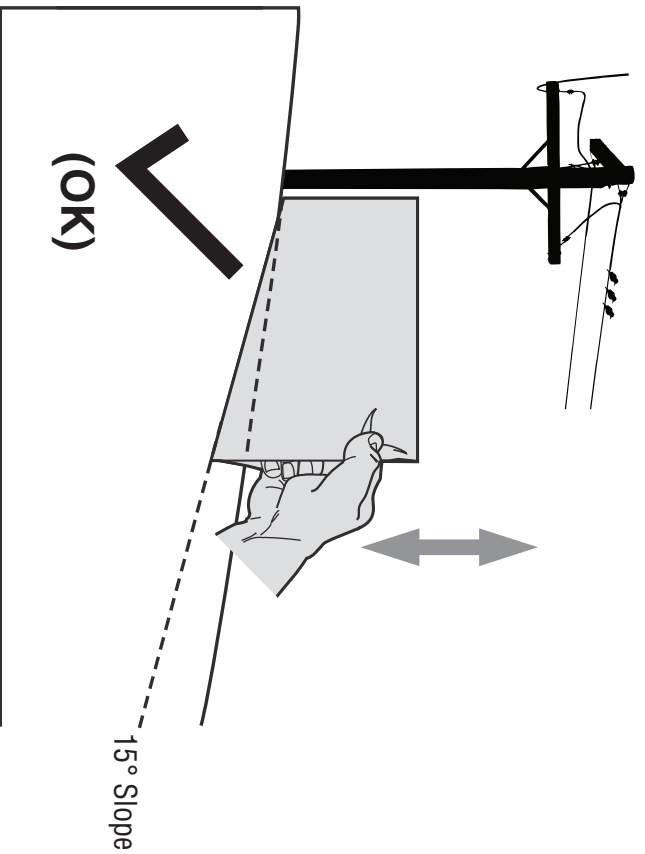

Figure 1
3. Align either side of the slope gauge with the object (See Figure 1 and Figure 2).